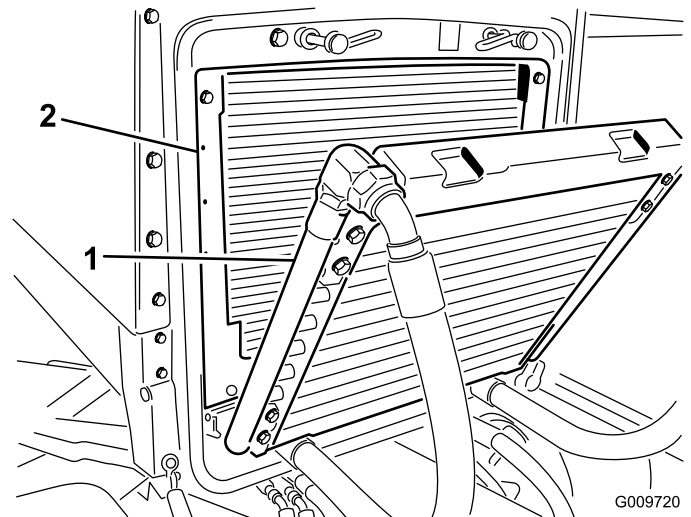

Figure 78
3. Pivot the oil cooler rearward. Clean both sides of the oil cooler and radiator area (Figure 78) thoroughly with compressed air. Start from the front and blow the debris out towards the back. Then clean from the back side and blow towards the front. Repeat procedure several times until all chaff and debris is removed.